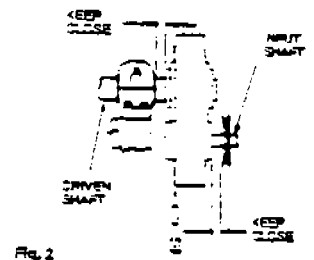

Fig. 2
1. Install sneave on input shaft as close to reducer as practical. (See Fig. 2).